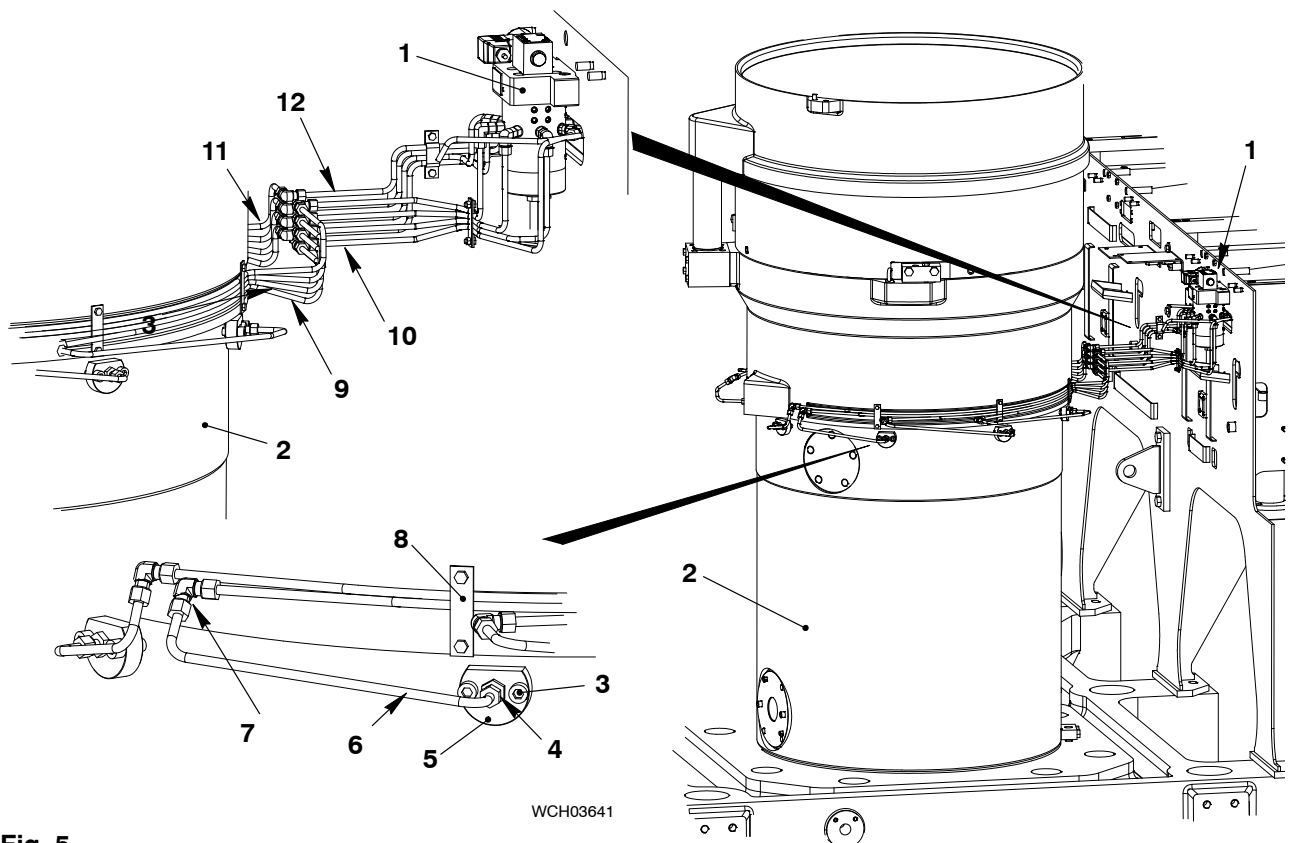

Fig. 5
- 2) Apply oil to the threads of the two screws (3, Fig. 5).
- 3) Put the lubricating quills (5) in position.
- 4) Torque the two screws (3) to 10 Nm.
- a) Install the cylinder liner (2), refer to 2124-2, paragraph 4.
- d) Attach the holders (8) to the cylinder liner (2).
- 6) Connect the oil pipe (6) to the pipe union (4) and the pipe union (7).